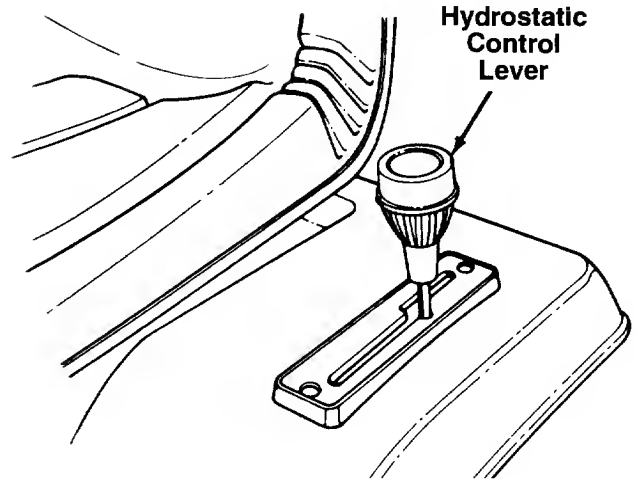

FIGURE 13.
The hydrostatic control lever is located on top of the fender on the left side of the tractor. This single control lever, connected to the hydrostatic transmission, controls both the speed and direction of the tractor. Infinite speed control is achieved by moving the control lever forward or backward. The farther forward or backward you move the control lever, the faster you will travel. Pulling the control lever into neutral (N) area will stop the tractor. To increase rear wheel torque (pulling power), move the control lever towards neutral (N) position. The lawn tractor responds similar to shifting to a lower gear with a gear type transmission. See figure 13.